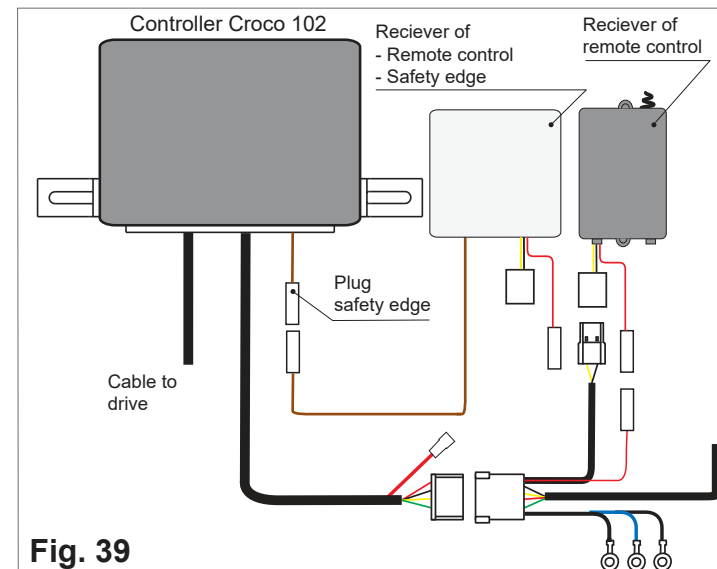

Fig. 39
**Croco 102:** Connect the corresponding receiver to the control unit as shown in Fig. 39.